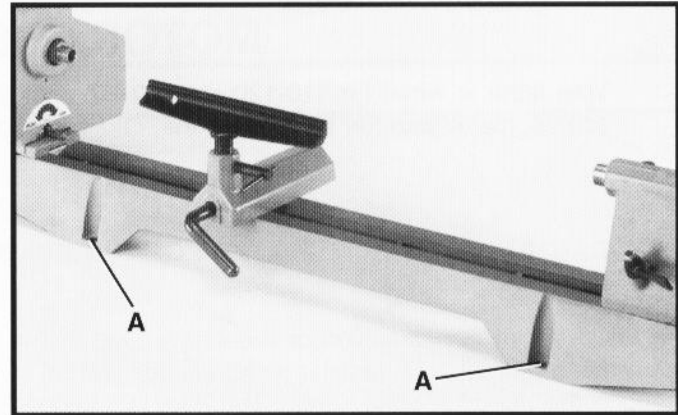

Fig. 19
The wood lathe must be fastened to a supporting surface. Four holes, two of which are shown at (A) Fig. 19, are provided in the lathe bed for this purpose.